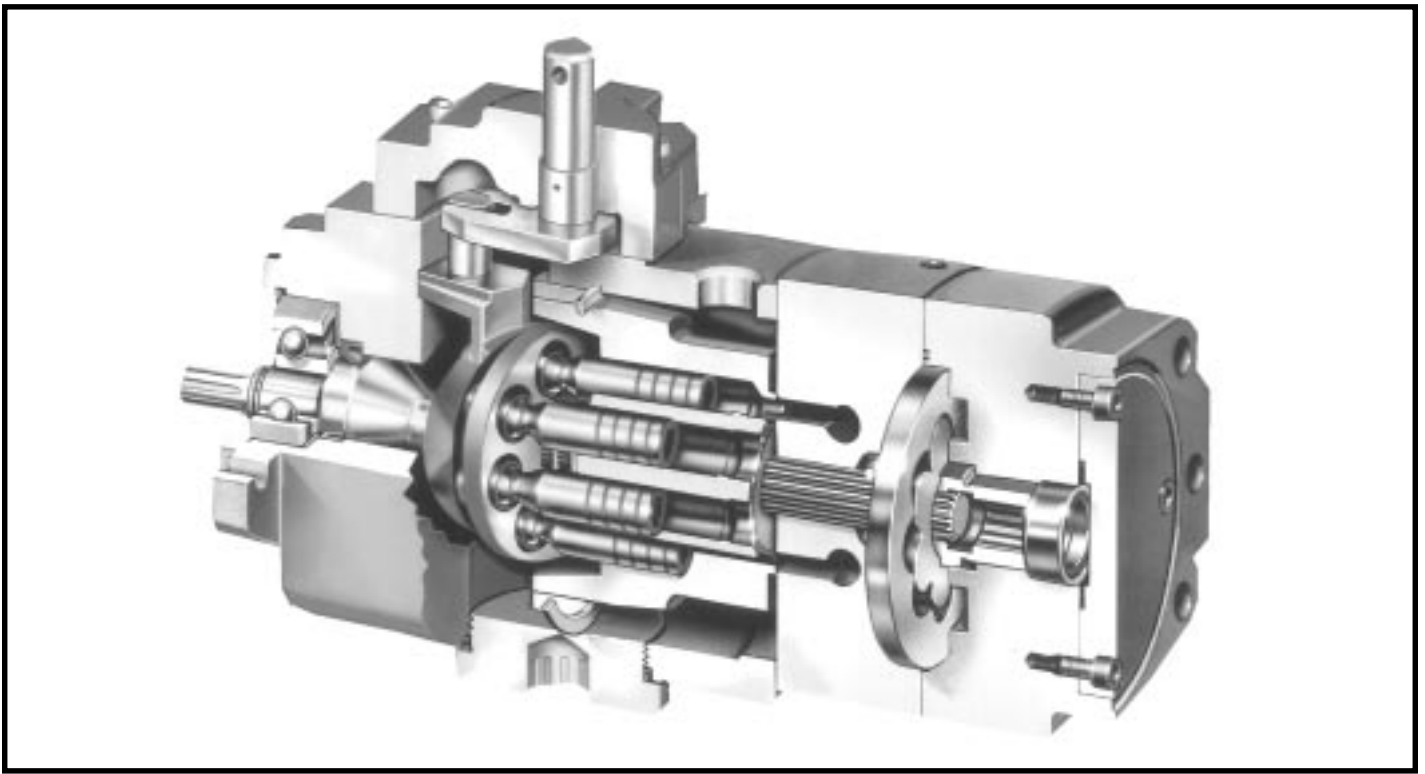

Figure 2. Cut-a-way (cross section) of Typical "PVWC" Pump (00005).
Refer to Figures 2, 10, and 11. A driveshaft (1) runs through the centerline of pump housing (5), valve plate (51) and generated rotor pump (64). A front driveshaft bearing (3) supports the outboard end of the driveshaft and the inboard end is inserted into a splined coupling (62) (for the supercharge pump) which is supported by coupling bushing (55) in the rear plate (68). The pump cylinder barrel (18) is carried in a journal type hydrodynamic cylinder bearing (12). The valve plate (51) has two crescent shaped ports. Pumping piston/shoe assemblies (15) in the cylinder are held against a swashblock (11) by a shoe retainer (14). The shoe retainer is held in position by a fulcrum ball (16) which is forced outward by shoe retainer spring (17). The spring acts against the pump cylinder forcing it against the valve plate (51) while also forcing the piston shoes against the swashblock (11). The semi-cylinder shaped swashblock limits piston stroke and can be swivelled in arc shaped saddle bearings (10A & 10B) fitted (located) into front housing. The swashblock is swivelled by a control (covered in referenced material). Non-adjustable high pressure relief valves and check valves (54) for Ports A and B are installed in the valve plate housing (51).